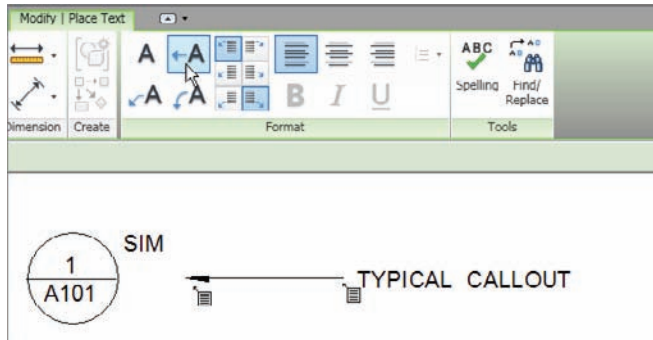

FIGURE 11.49 Adding the text to the legend
2. On the Modify | Place Text tab, click the One Segment button, as shown in Figure 11.49.
- Pick two points for the leader, and type **TYPICAL CALLOUT** (see Figure 11.49).